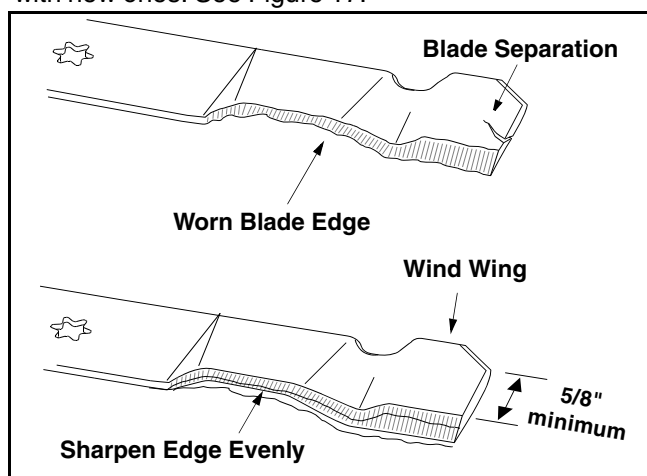

Figure 17
- To properly sharpen the cutting blades, remove equal amounts of metal from both ends of the blades along the cutting edges, parallel to the trailing edge, at a 25° to 30° angle. See Figure 17.
IMPORTANT: If the cutting edge of the blade has already been sharpened to within 5/8" of the wind wing radius, or if any metal separation is present, replace the blades with new ones. See Figure 17.